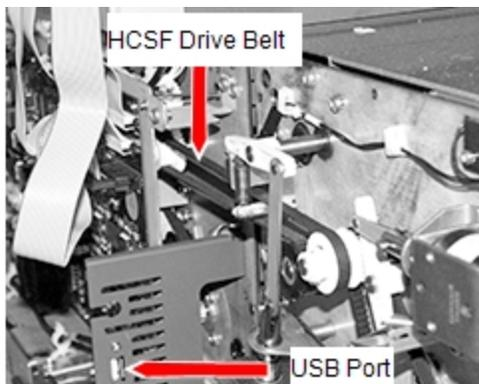

Figure 26 HCSF to HCSF Belt Routing
1. The routing of the HCSF drive belt is somewhat different. See Figure 26.